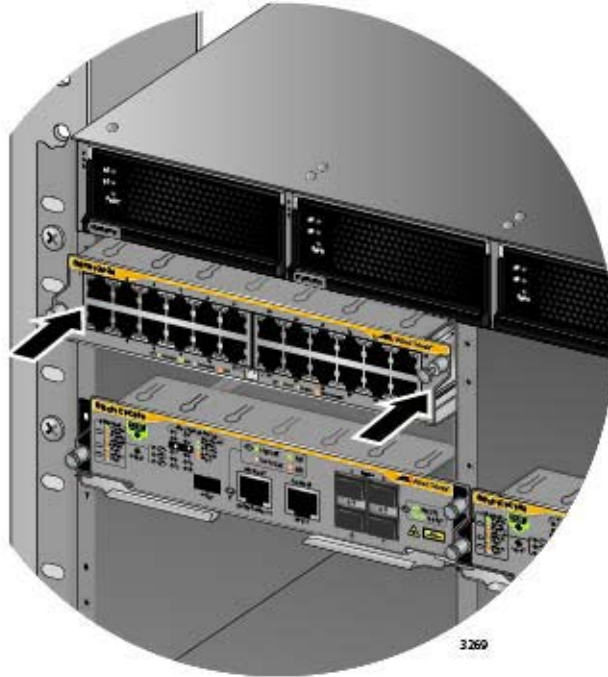

Figure 98. Seating an Ethernet Line Card on the Backplane Connector
7. When you feel the line card make contact with the connector on the backplane of the chassis, gently press on both sides of the faceplate to seat the card on the connector. Refer to Figure 98 on page 169.